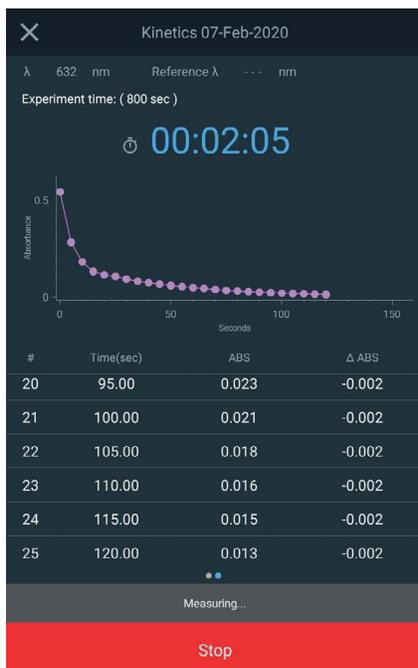
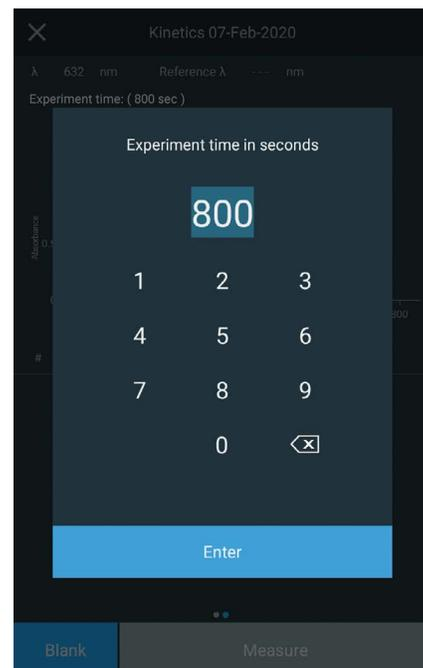

Figure 2: Stop function in Kinetics method
Figure 3: Add more time to experiment
- Select Measure to record the absorbance until cuvette 3, which you've observed throughout the reaction, appears colorless. You can select Stop to end the data collection early (Figure 2). Remember that cuvette 4 in the spectrophotometer contains a duplicate of the reaction and looks exactly like the contents of cuvette 3. If the experiment time needs to be extended, more time can be added by selecting the clock on the GENESYS touch screen. Record your observations of what happens to the intensity of the color in cuvette 3 (Figure 3).